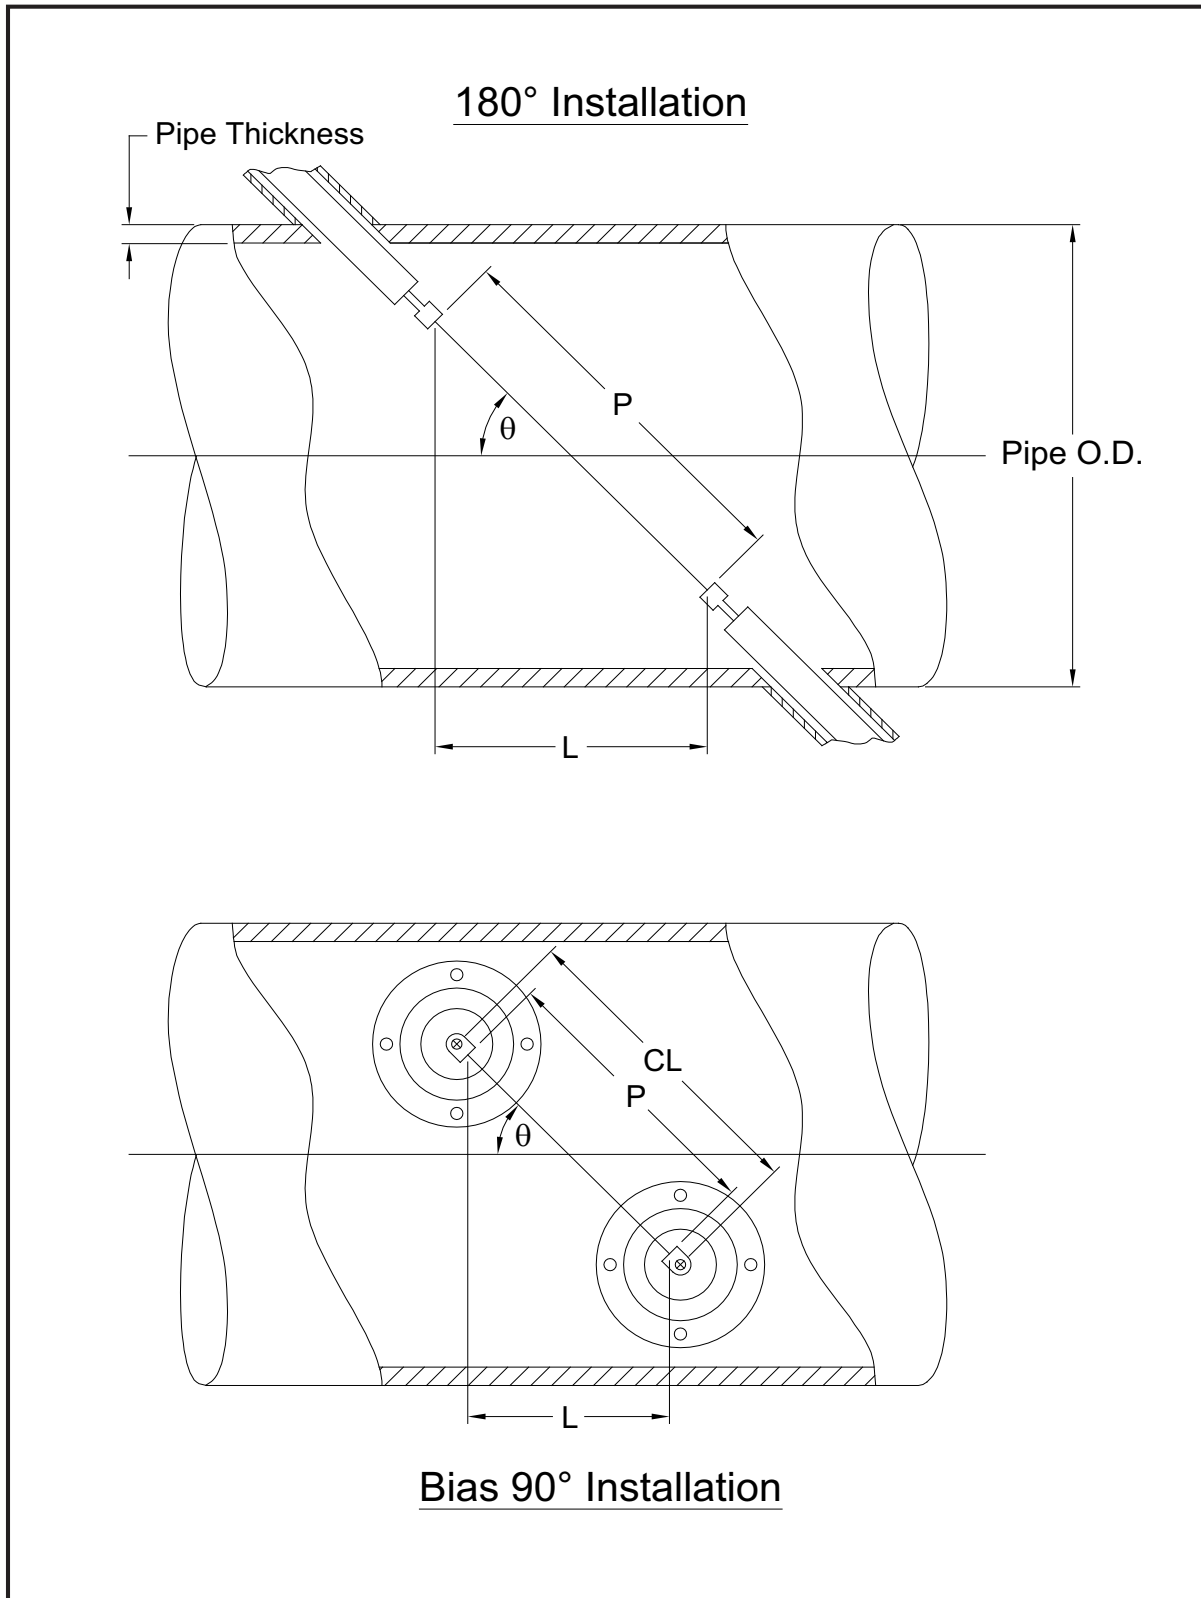

Figure 22: Top View of Typical Transducer Installations
The accuracy of the programmed P and L values is critical to precise flow rate measurements. If GE supplies the flowcell for the system, the correct values will be included in the documentation supplied with the system. For transducers installed on an existing pipe (see Figure 22 on page 70), P and L must be measured at the site. This appendix provides instructions for properly determining these dimensions.
Whenever possible, physically measure the face-to-face distance (P) and the axial distance (L) between the centers of the flat faces of the transducers. Refer to Figure 22 on page 70 for an illustration of the proper distances to measure, in a typical installation.
With a Bias 90° transducer installation, it sometimes happens that the only known parameters are the transducer angle (θ) and the centerline distance between the transducer bodies (CL). In these cases, it is still possible to calculate P and L by combining Equation C-1 with the additional Equation C-2 (see Figure 22 on page 70):